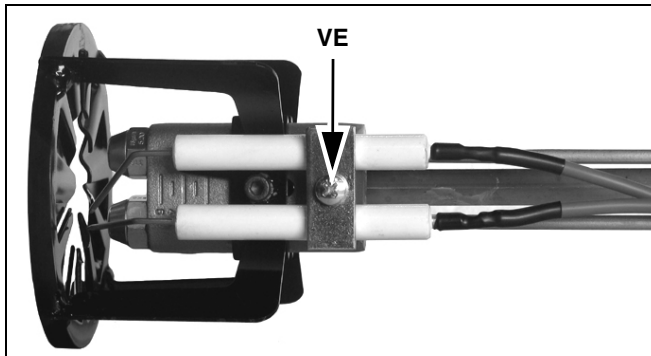
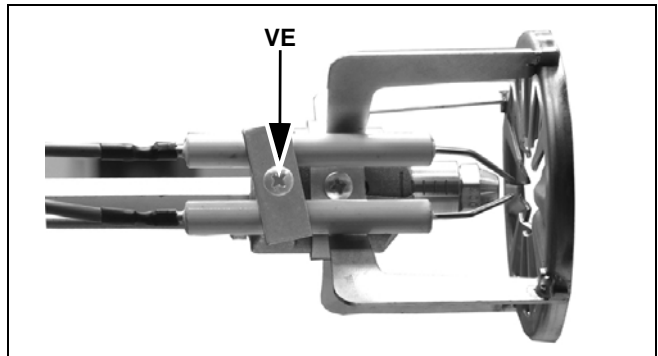

Fig. 47 - Double-stage burner
Fig. 48 - Single-stage burner
- Withdraw the screw **VE** and remove the electrodes from the support (Fig. 47 - Fig. 48).